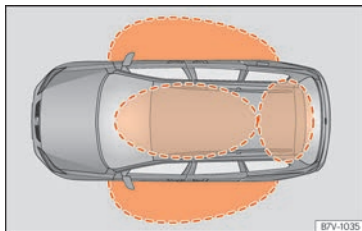
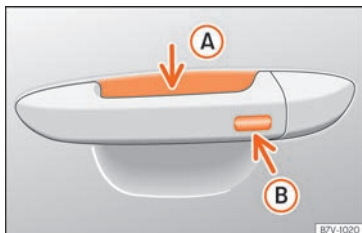

Fig. 91 Keyless Access: proximity zones.
Fig. 92 Door handle: sensor surfaces
» **Fig. 92**
Keyless Access is a key-free locking and ignition system to unlock and lock the vehicle without actively using its key. To do this, all that is required is to have a valid vehicle key in the detection area where you are attempting to access the vehicle » **Fig. 91** and to touch one of the sensor surfaces on the door handles » **Fig. 92** » .
If a valid key is located in the proximity of the car » **Fig. 91**, the Keyless Access lock and ignition system gives the key entry as soon as
- Grip the door handle. When you do this, you touch the sensor surface » Fig. 92 **A** (arrow) on the handle and the vehicle unlocks.
- Touch (once) the sensor surface » Fig. 92 **B** (arrow) on the door handle. The door that is used must be closed.
- Touch (once) the sensor surface » Fig. 92 **B** (arrow) on the door handle. The vehicle locks with the "Safe" security system » page 104. The door that is used must be closed.
- Touch (twice) the sensor surface » Fig. 92 **B** (arrow) on the door handle to lock the vehicle without the "Safe" security system » page 104.
When the vehicle is locked, the rear lid automatically unlocks on opening if there is a valid vehicle key in the proximity » Fig. 91.
»» Fig. 92  within the following 5 seconds. Do not grasp the door handle; otherwise the vehicle will not unlock. Deactivation is also possible if the vehicle is locked through the driver's door lock.
To close all the electric windows and the panoramic sliding sunroof using the **comfort function**, keep a finger for a few seconds on the locking sensor surface »» Fig. 92  (arrow) of the door handle until the windows and roof have closed.
The sensor surfaces on the door handles could engage if hit with a water jet or high pressure steam if there is a valid vehicle key in the proximity. If at least one of the electric windows is open and the sensor surface »» Fig. 92  (arrow) on one of the handles is activated continuously, all windows will close.